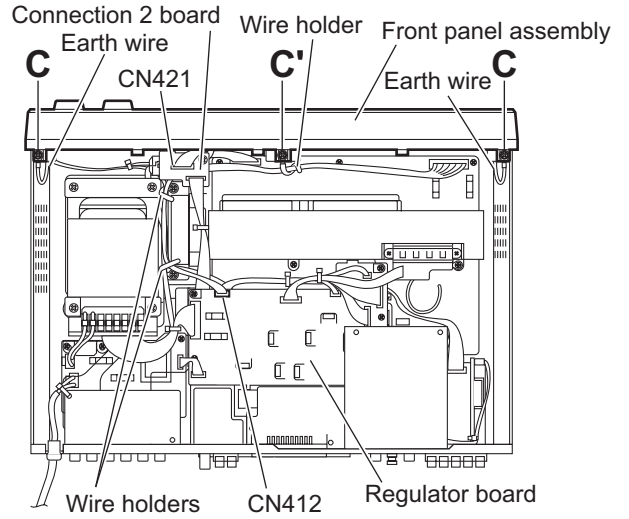

Fig.3
3.1.2 Removing the front panel assembly (See Figs. 3 to 5)
(1) From the top side of the main body, disconnect the wire from the connector **CN412** on the regulator board. (See Fig.3)
After reassembling, fix the wires with the wire holders as before. (See Fig.3.)
(2) Disconnect the wire from the connector **CN421** on the connection 2 board. (See Fig.3)
(3) Remove the two screws **C** and screw **C'** attaching the front panel assembly. (See Fig.3)
- When attaching the screw **C**, attach the earth wires with them. (See Fig.3.)
- When attaching the screw **C'**, attach a wire holder with it. (See Fig.3.)